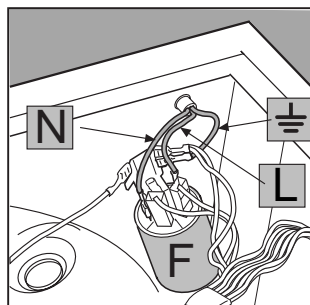

Fig. 4
3. Disconnect the wires from the radio interference suppressor **F** [fig. 4] taking care as to their position (**Blue=N** wire; **Brown=L** wire) leaving the earth wire until last  $\perp$ .